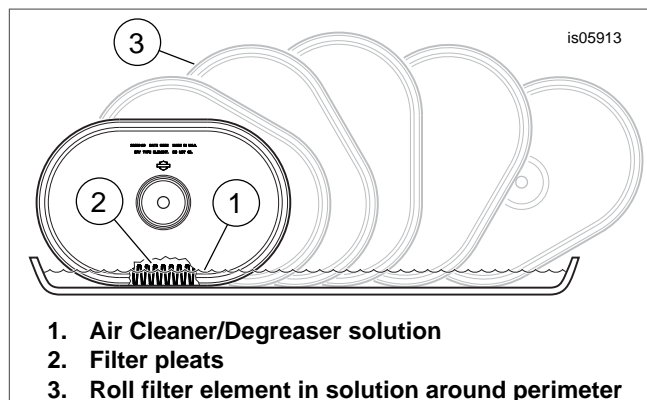

Figure 1. Cleaning the Filter Element
2. Clean the filter element as follows (see Figure 1):
- a. Remove and wash the element by immersing it, on edge, in a shallow pan containing enough Air Cleaner/Degreaser (1) to cover **no more than** three-quarters of the depth of the filter pleats (2), about 0.375 inch (9.5 mm). **Do not allow dirty solution to get inside the element.** Carefully "roll" the element in the solution around its perimeter (3) until the entire outer surface of the filter pleats has been soaked.